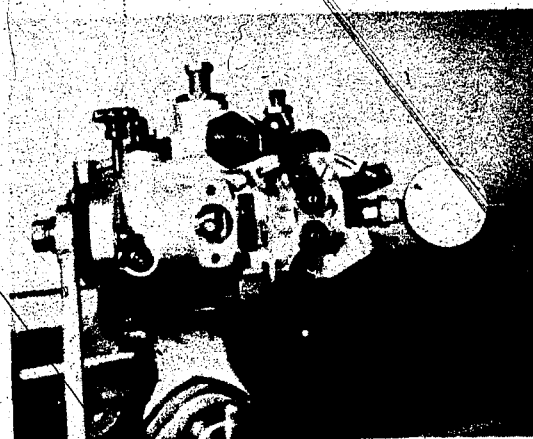

Fig. 5
1.3.1 Preparing the injection pump (Fig. 5)